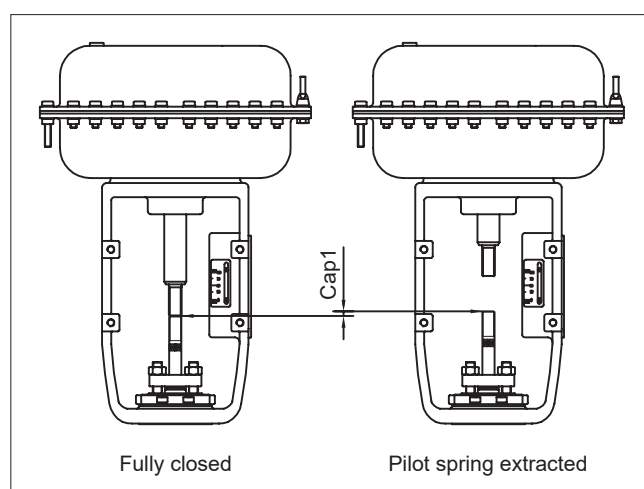

Fig. 13 Measurement of Gap 1
<air to open, stem retract> actuator (Fig. 13)
B. Actuator removal for Direct <air to close, stem extend > actuator (Fig. 13)